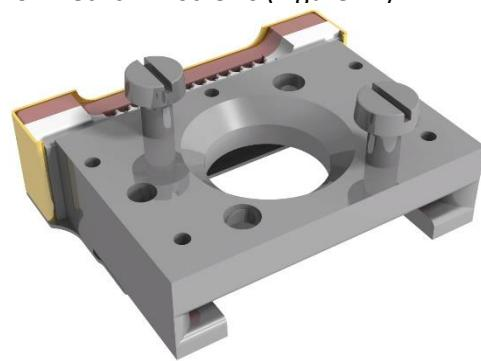

Figure 12: bottom mounting
- From the bottom using the two threaded holes for metric M2 screws (Figure 12)